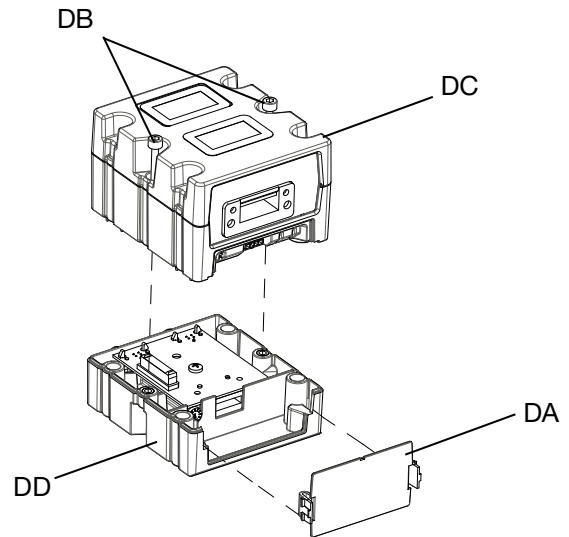

Fig. 63: Disassembling the CGM
4. Remove the access cover from the CGM (DA). Loosen and save the two M5-0.8 x 45 mm x screws (DB), and remove the CGM (DC) from the base (DD). See Fig. 63..